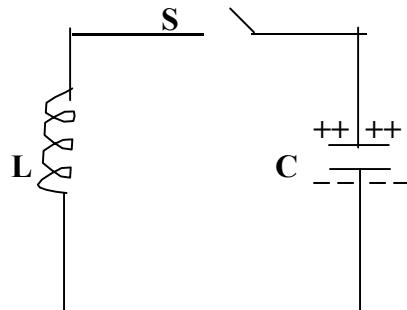

Fig.1
**Circuit operations-** Assume capacitor is charged from a d. c. source with a polarity as shown in figure 1.